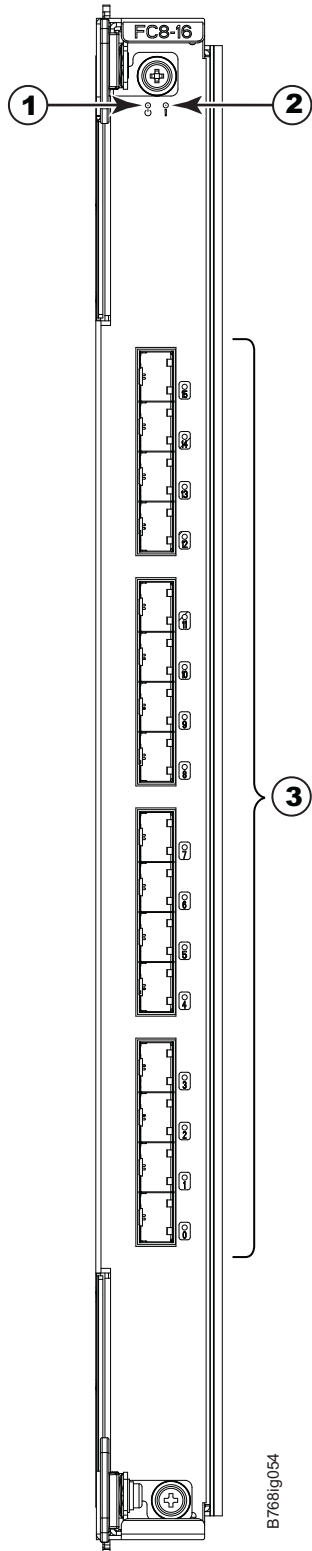

Figure 53. FC8-16 port blade
- Figure 53 on page 154 shows an FC8-16 port blade